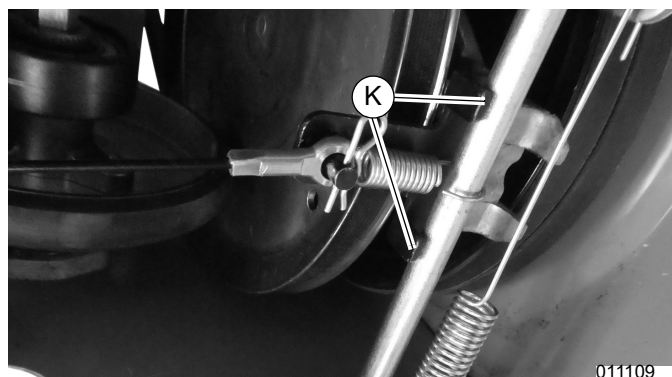

Figure 4-16. End Tabs of Friction Disc Bracket
5. Remove traction drive spring (I) from the frame using pliers.
6. Remove traction drive belt (J) from engine pulley and let it rest in front of the pulley.
7. See Figure 4-16. Observe how end tabs (K) of the friction disc bracket are located on both sides of the front strut. It must be installed this way when reassembled.